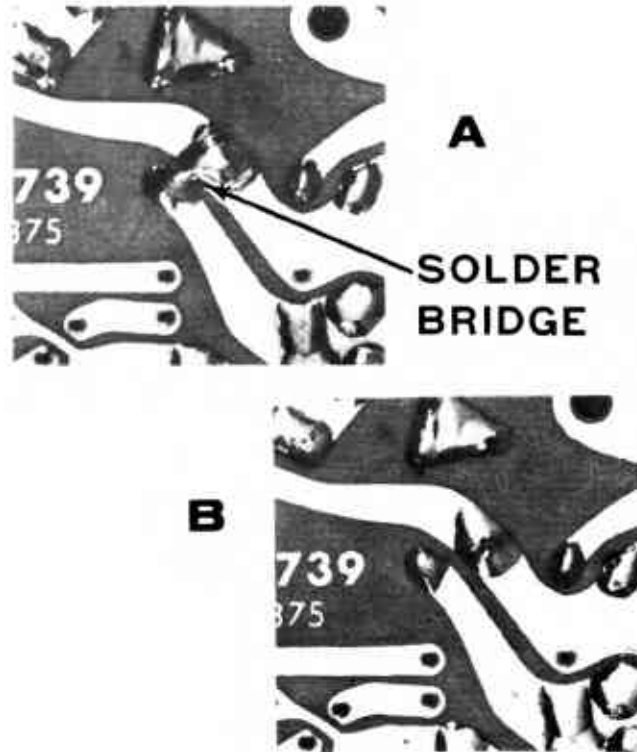

Figure 6.5: Solder Bridges
The other problem is a solder bridge. Figure 6.5 on page 10 shows this. (The H8-Z80-64K V2.6 has a solder mask that helps reduce the chance for a solder bridge.)
A solder bridge between two adjacent foils is shown in Figure 6.5(A). Figure 6.5(B) shows how the connection should appear. A solder bridge may occur if you accidentally touch an adjacent previously soldered connection, if you use too much solder, or if you “drag” the soldering iron across other foils as you remove it from the connection. A good rule to follow is: always take a good look at the foil area around each lead before you solder it. Then, when you solder the connection, make sure the solder remains in this area and does not bridge to another foil. This is